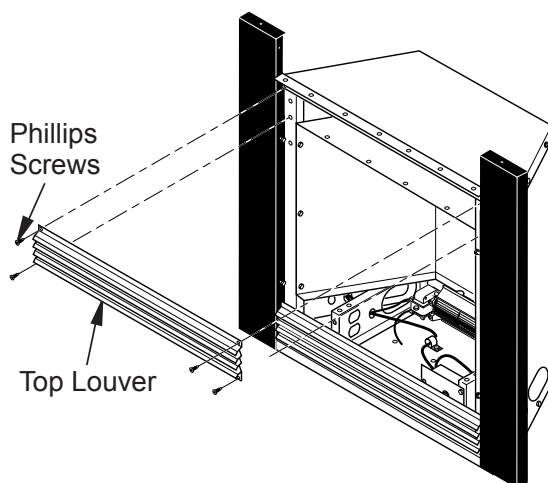

Figure 7 - Removing Louver
4. Using Phillips screwdriver, remove 4 screws attaching top louver (see Figure 7, page 9).